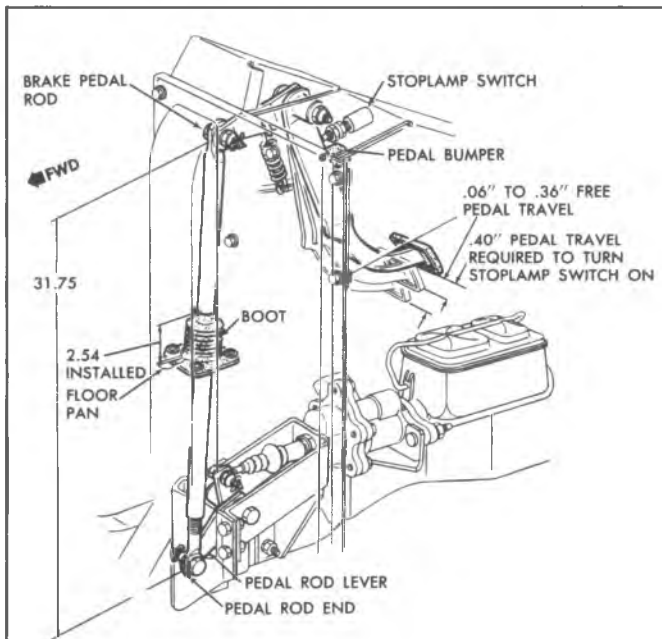

Fig. 94--Brake Pedal and Stop Lamp Adjustment--P30(32) Model
NOTE: Pre-assembled brake pedal rod assembly should be adjusted to dimension shown in Figure 94.
2. Adjust free pedal travel by turning the brake pedal rod end. Free pedal travel should be .06" to .36" (fig. 94).